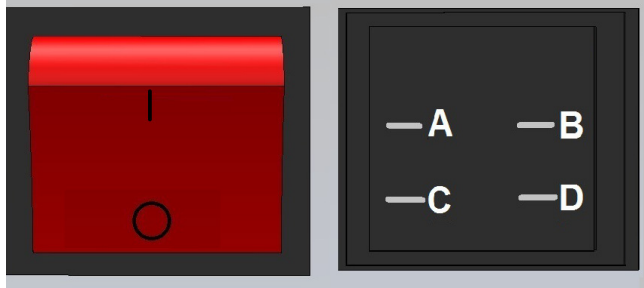
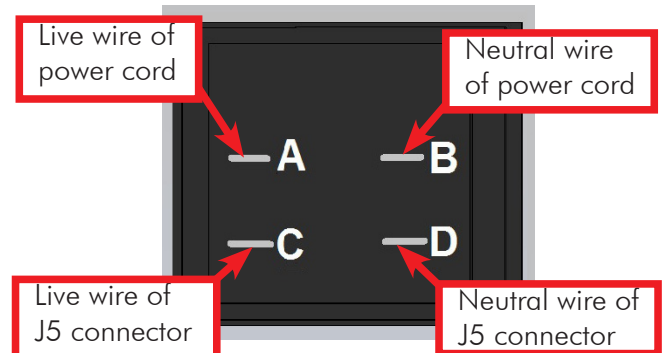

Figure 81
Figure 82
- Solder the "Live" and "Neutral" wires of the power cord to the switch as per the details shown in Figure 81 and Figure 82.